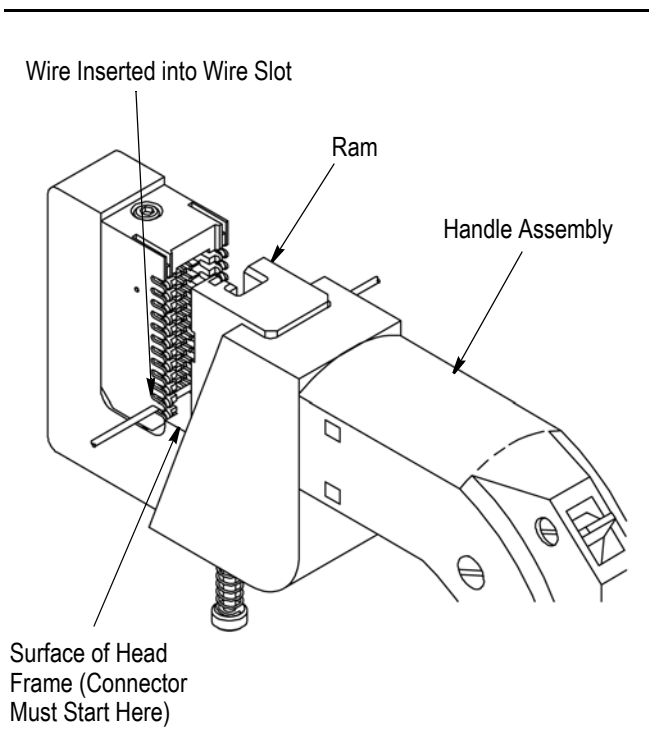

Figure 5
- Starting with the wire slot closest to the head frame, push one wire into one slot for each contact position of the connector being terminated. See Figure 5.
- Using a screwdriver (or equivalent), push the connector into the ram until the connector touches the surface of the frame. Refer to Figure 5.